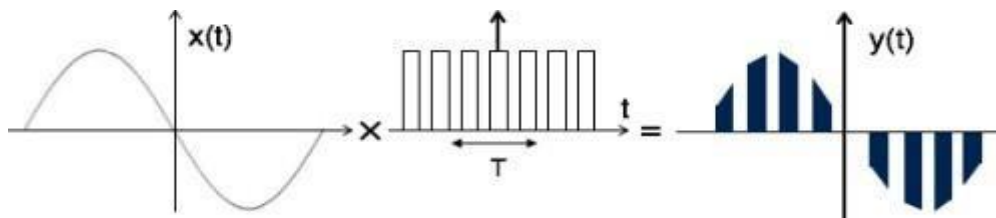

Figure 7.1: Natural sampling process
1) **Natural Sampling:** It is a practical method of sampling in which pulse have finite width equal to τ . Sampling is done in accordance with the carrier signal which is digital in nature. It is shown in figure 7.1